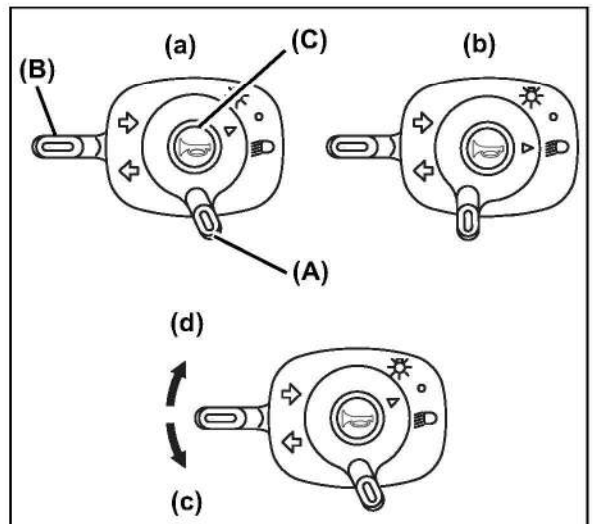

Fig 5-34
### (20) Headlight switch (Fig 5-34, A)
### (21) Horn switch (Fig 5-34, C)
### (22) Turn signal switch (Fig 5-34, B)